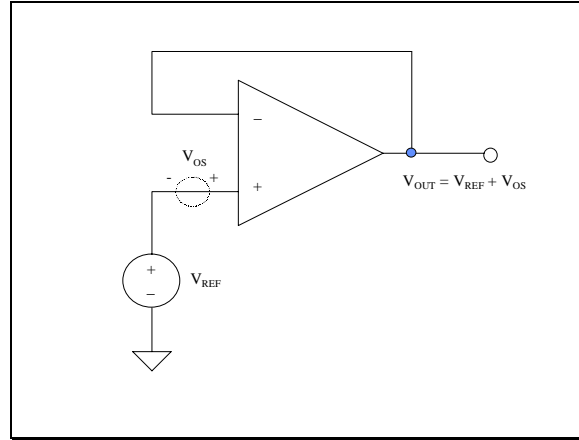

Figure 2.1a: Input Offset Voltage Measurement Circuit
1. Set up the unity-gain-feedback op amp circuit shown in Figure 2.1a.